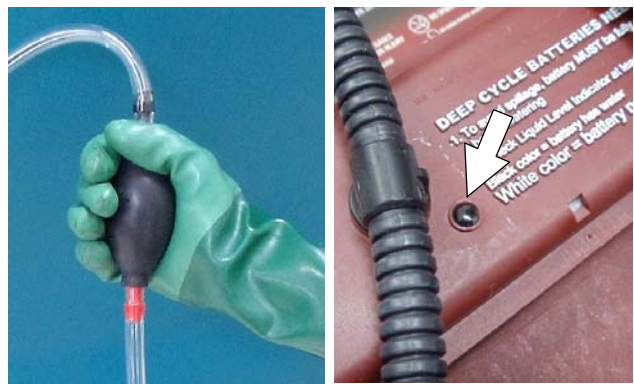

FIG. 133
5. Squeeze the bulb on the hand pump hose until firm (Figure 133). The level indicators will turn black when full.